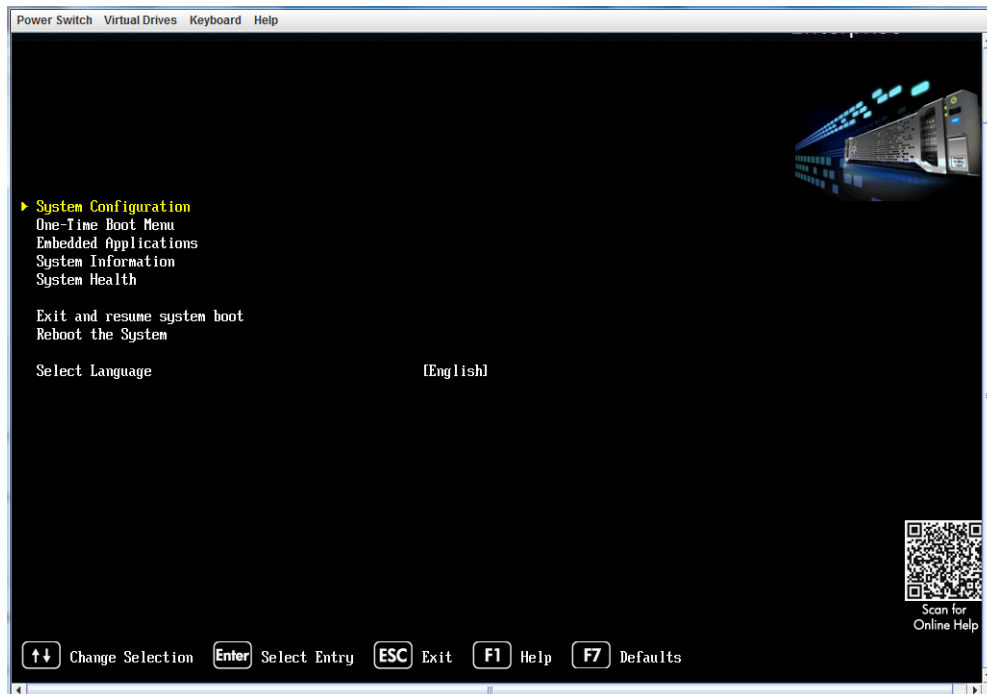

Figure 4-1. System Configuration
3. Select **System Configuration** (Figure 4-1).